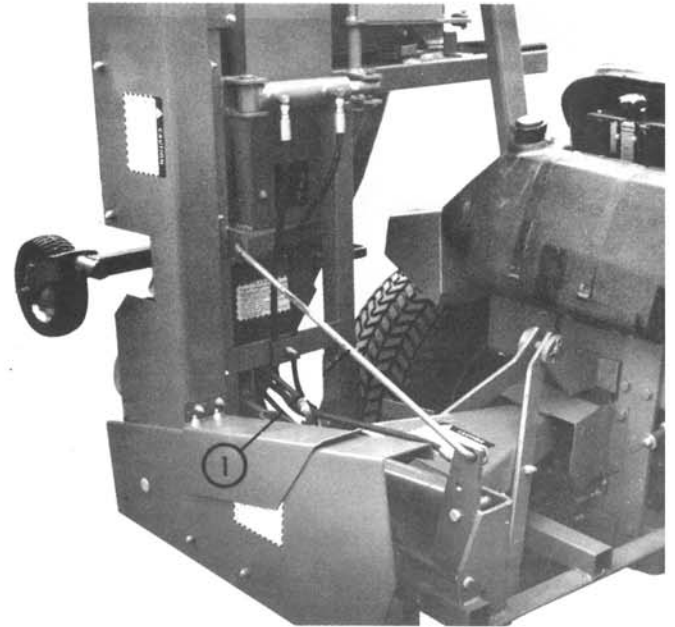

Fig. 5
8. Remove the Klik pin securing the stay rod and reconnect the stay rod and secure with the Klik pin as shown in fig. 5. The wing frame assembly is now in a secure transport position.